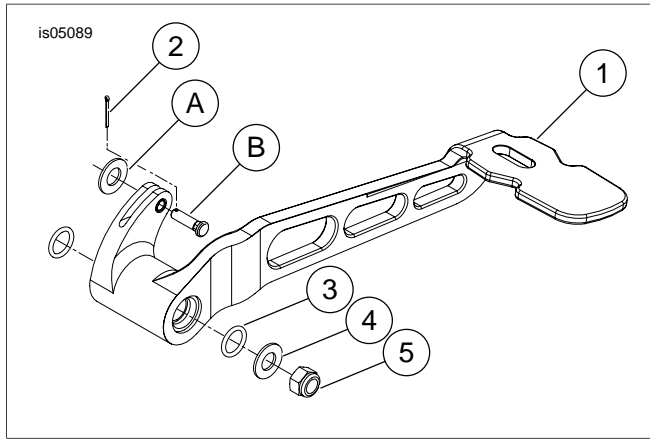

Figure 1. Service Parts: Billert Rear Brake Lever
See Figure 1 and Table 1.
1. See Figure 1 and Table 1. Remove the cotter pin and washer from the master cylinder clevis pin. Discard the cotter pin.
1. See Figure 1 and Table 1. Insert new O-rings (3) on either side of the lever bushings. Install the new billet style brake lever (1) onto the shaft.
3. Install the small saved flat washer onto the clevis pin and insert the new cotter pin (2).
4. Install the large flat washer (4) and locknut (5) from the kit. Tighten the locknut to 15-20 ft-lbs (20-27 Nm).